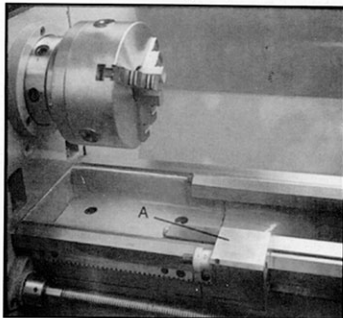

Fig.15
24. **Micro Carriage Stop** (A, Fig. 15) - located on the lathe bed. Loosen two hex socket cap screws underneath body and slide along bed to desired position. Tighten screw to hold in place.